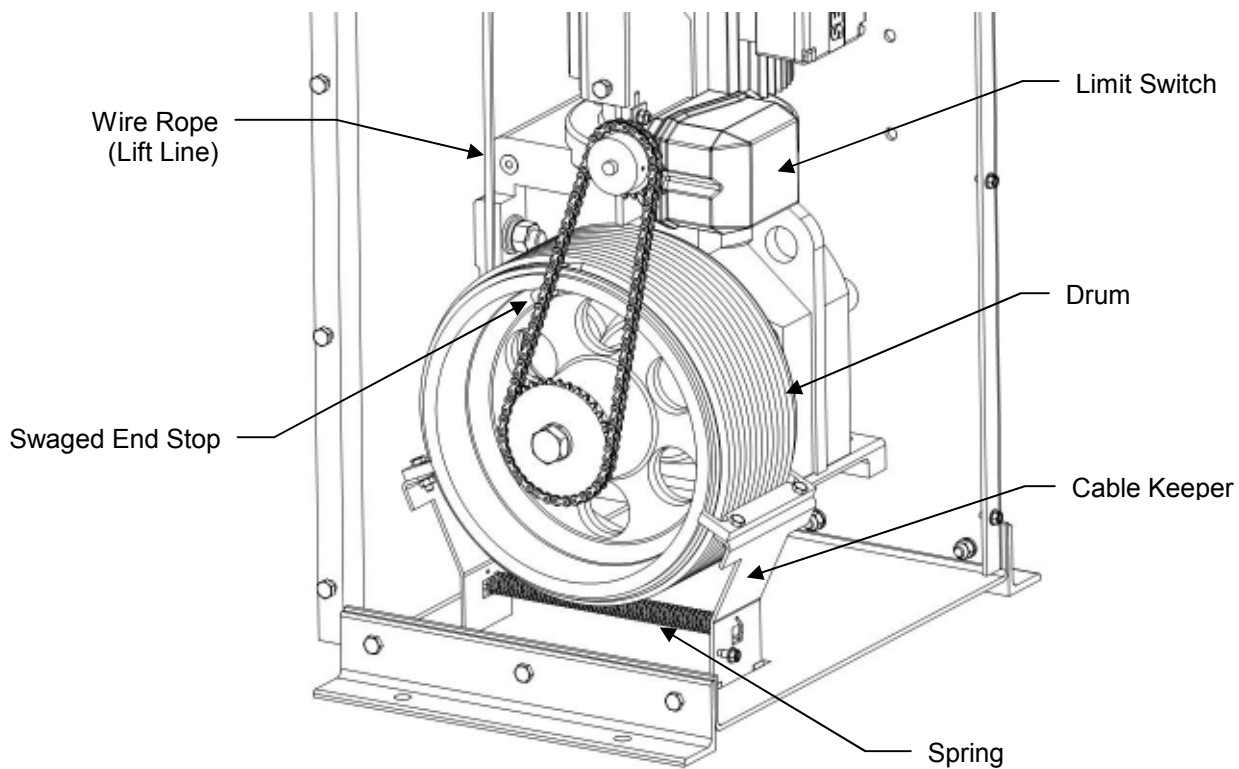

Figure 3 – Cable Keepers (Covers removed for illustration)
1. Connect the spring between the holes in the brackets as shown in Figure 3.
2. Insert one of the cable keeper brackets into the slot in the bottom plate at the rear of the enclosure. (See Figure 3) Pull the bracket towards the front of the enclosure to ensure the bracket engages in the slot.